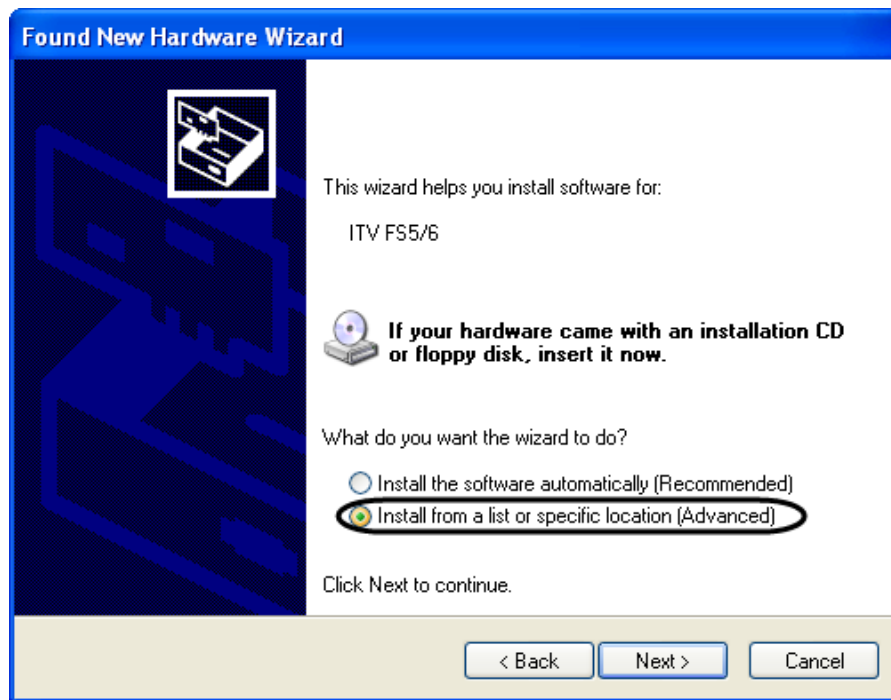

Figure 2.1-9 Selection of the Installation from a list of specific location item
3. Select **Install from a list or specific location** and click **Next** (Figure 2.1-9).